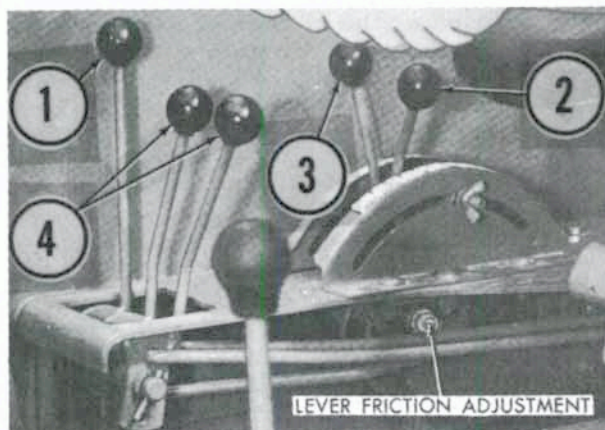

Fig. 173—View of Series IV D-17 hydraulic control levers and control lever friction adjustment nut.
260. **"TRACTION BOOSTER" (DRAFT) ADJUSTMENT.** Remove any weight or implement attached to the 3 point hitch and/or drawbar. With the engine running at low idle speed, move the lift arm control lever (1—Fig. 173) to the "Traction Booster" detent position, move the position control lever (2) all the way forward and move "Traction Booster" control lever (3) all the way to the rear. Loosen locknut (L—Fig. 174) and turn the "Traction Booster" link rod into yoke (Y). Attach a 200 lbs weight to the lift arms and back the link rod out of the yoke (Y) until lift arms begin to lower with the attached 200 lbs. Make certain that lift arms move to the fully lowered position with 200 lbs of weight, then tighten locknut (L).
261. **POSITION CONTROL ADJUSTMENT.** With the engine running at low idle speed, move the lift arm control lever (1—Fig. 173) to the "Traction Booster" detent position, move the "Traction Booster" control lever (3) all the way forward, move the position control lever (2) all the way to the rear. Turn the position control adjustment nut (Fig. 175) out until lift arms raise, then with lift arms at top of travel, turn the adjusting nut (Fig. 175) onto rod until pressure is below 1/2 of scale on the "Traction Booster" gage.
262. **LEVER FRICTION ADJUSTMENT.** With the engine stopped, completely lower the lift arms. Move the "Traction Booster" control lever (3—Fig. 173) and the position control lever (2) to full rearward position. If the levers will not stay in this position, tighten the friction adjusting nut (See Fig. 173).